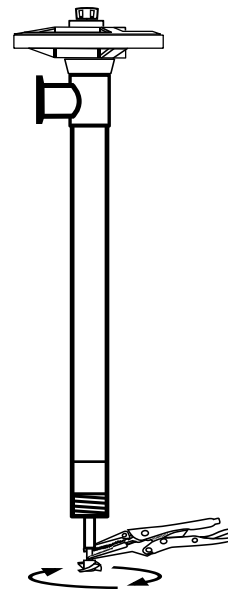

Figure 4
4. While holding the drive shaft with pliers (factory suggests using grip-locks to avoid scarring shaft) remove the impeller by turning counter clockwise (see Figure 4).